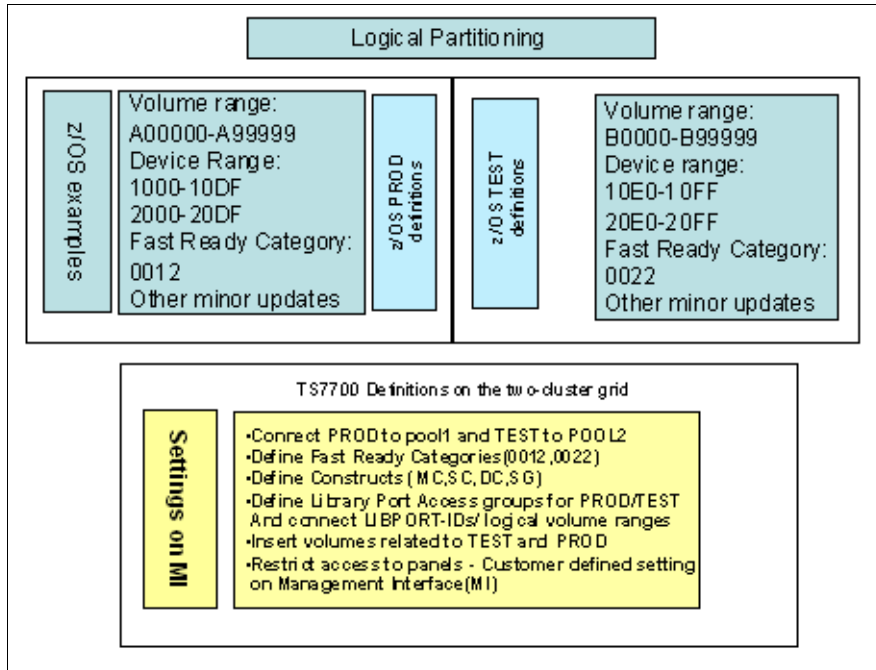

Figure I-3 Management Interface updates for logical partitioning of TEST and PROD
Updates and definitions that are needed on the windows of the Management Interface (MI) are covered. The definitions must match the definitions on the z/OS hosts to make it work. Make updates in the areas that are shown in Figure I-3.